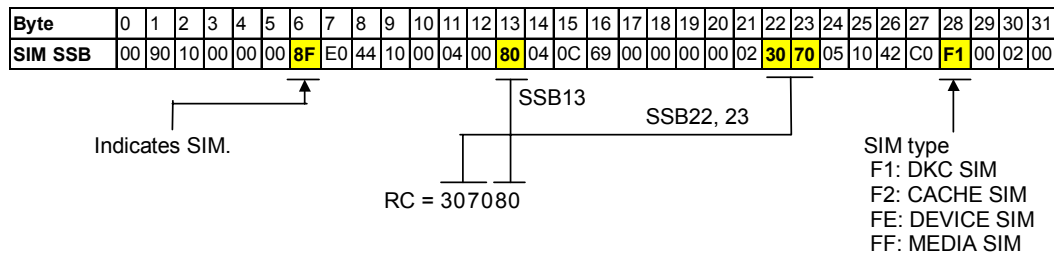

Figure C.1 Typical 9900V SIM Showing Reference Code and SIM Type
Figure C.1 shows a typical 32-byte SIM from the 9900V subsystem. SIMs are displayed on the host console by reference code (RC) and severity. The six-digit RC (composed of bytes 22, 23, and 13) identifies the possible error and determines the severity. The SIM type (byte 28) indicates the component which experienced the error. When byte 22 = 21, the SIM is a control unit SIM. When byte 22 = Dx, the SIM is a device SIM. When byte 22 = (D5-D7, DB), the specified pair is TC390A. When byte 22 = (D8 - DC), the pair is TC390 Synchronous. The SIM reference codes DB6x, DB7x, and DB8x indicate a TC390A pair suspended by the RCU.